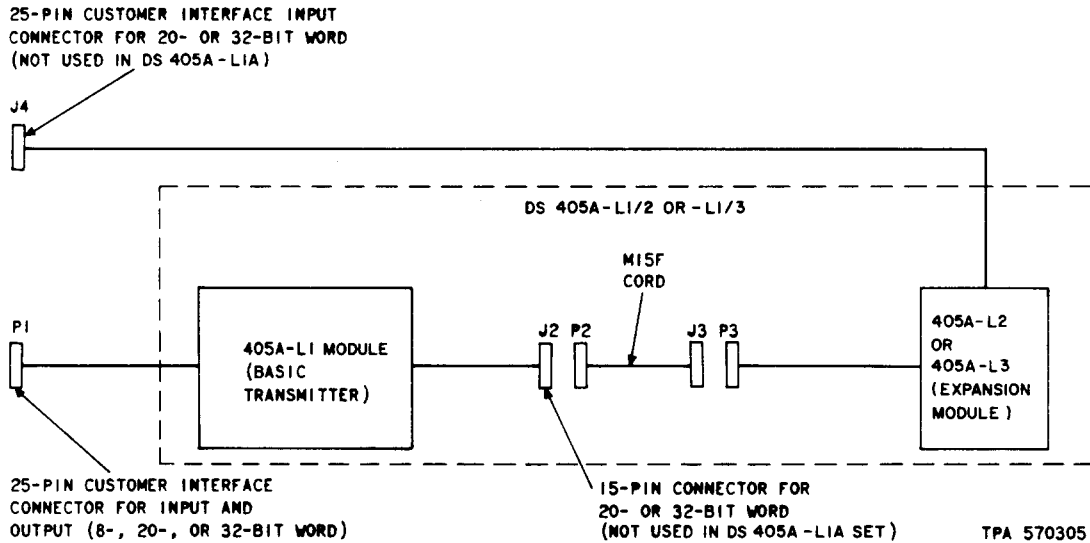

Fig. 2—Data Set 405A-Type—Interconnection Diagram
3.02 For a DS 405A transmitter installation using an 8-bit word, refer to Fig. 2 and Table D for lead designations.
3.03 For a DS 405A transmitter installation using a 20-bit word, refer to Fig. 2 and Tables D, E, and G for lead designations. Tables D and E list all the customer interface leads. The leads listed in Table G carry intermodule signals which are internal to the data set and are not available to the customer.
3.04 For a DS 405A transmitter installation using a 32-bit word, refer to Fig. 2 and Tables D, F and G for lead designations. Tables D and F list all the customer interface leads. The leads listed in Table G carry intermodule signals which are internal to the data set and are not available to the customer.